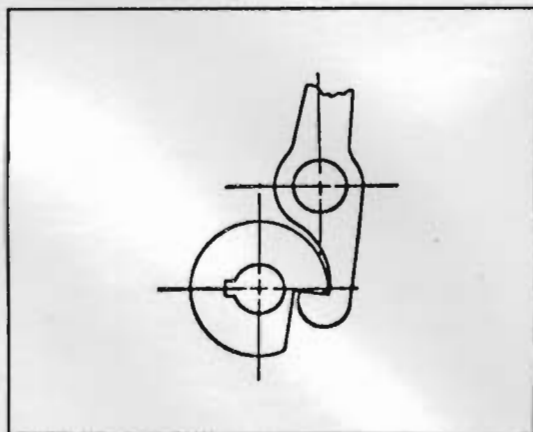

Figure 6-8
2. Assemble master turret locking pin cam (42-19602 - available from Brown & Sharpe) to turret return shaft and position shoulder of shaft to project  $\frac{1}{64}$ " beyond finished surface of turret slide. Rotate shaft until cam is in position shown in Figure 6-8.